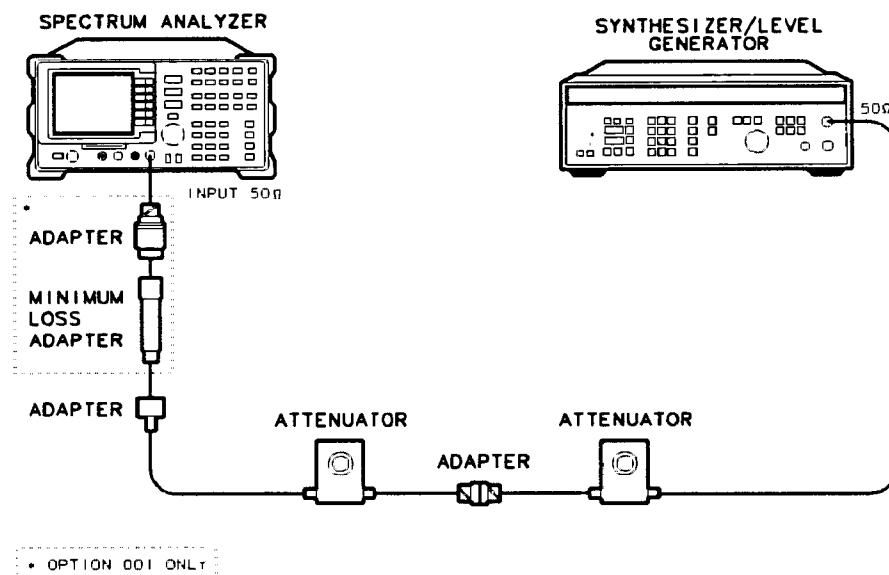

Figure 3-9. Reference Level Accuracy Test Setup
- Connect the equipment as shown in Figure 3-9. Set the HP 355D to 10 dB attenuation and the 355C to 0 dB attenuation.